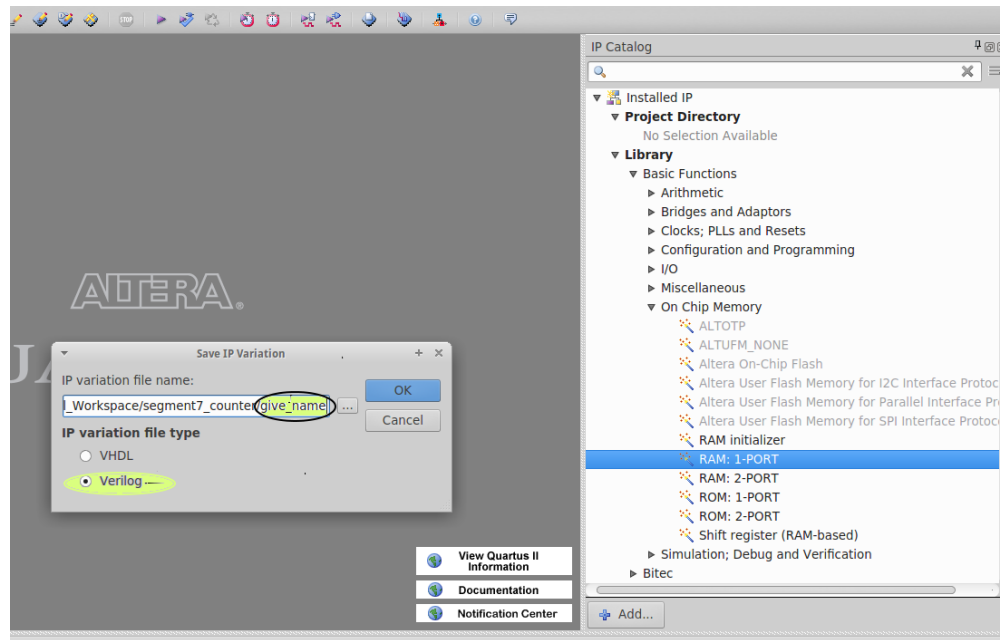

Figure 4: Accessing IP catalog on Quartus II.
1. Invoke IP Catalog (Tools → IP Catalog) after creating a new project. Then, expand the "On Chip Memory" menu list, and double click on RAM: 1-Port, see Figure 4. Enter IP variation file name, and select Verilog as the file type. Click OK